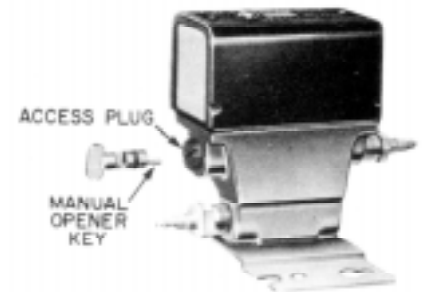

Fig. 1-VII Three-Way Solenoid Air Valve. Optional manual opener key is shown in the proper position for insertion.
2. Insert the manual opener key. The pin must be at the bottom. (See Fig. 1.)